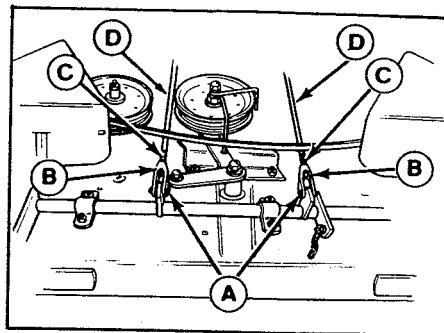

Figure 35. Turnbuckles
5. If adjustment is needed, remove the two pins (A, figure 35) by removing the cotter pins. Loosen the jam nuts (C).